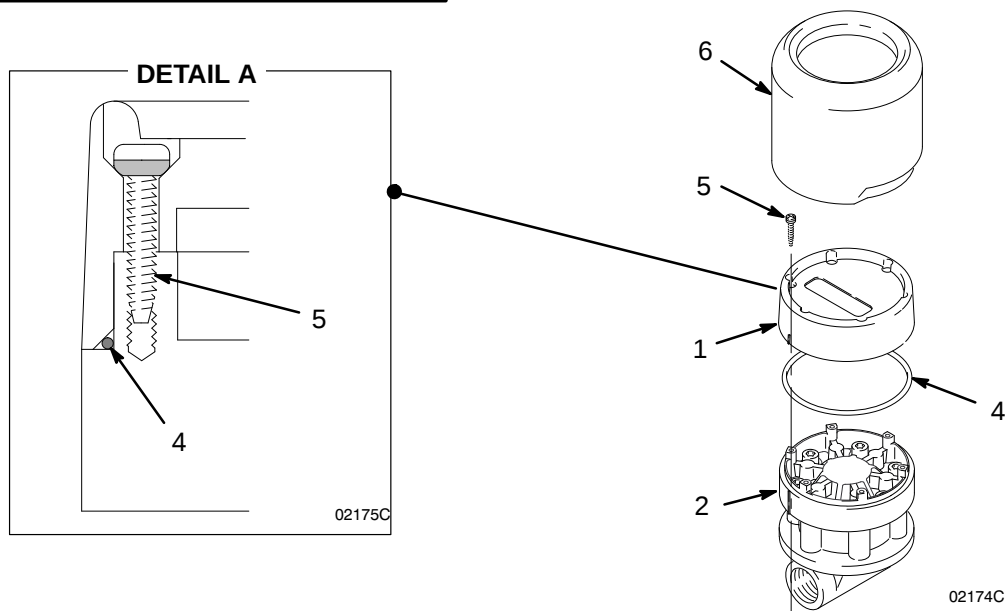

Fig. 7
- The electronic meter bezel-mounting bosses (shown in Fig. 7 on page 8 and in the **Parts** drawing above), are raised by 0.18 in.